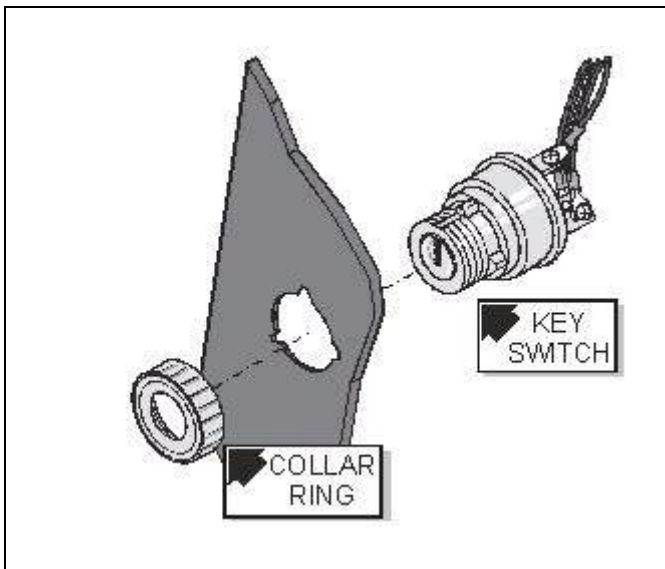

Figure 4-2 Key Switch Assembly
6. Unscrew the knurled switch collar ring to separate the switch from the base plate. (See Figure 4-2)